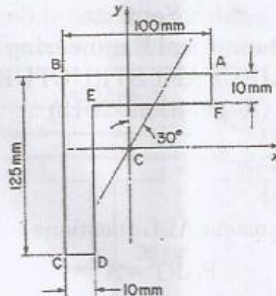

Fig 11-(b)
- b) Figure 11-(b) shows the section of an angle purlin. A bending moment of 3000 Nm is applied to the purlin in a plane at an angle of 30° to the vertical y axis. If the sense of the bending moment is such that its components M_x and M_y both produce tension in the positive xy quadrant, calculate the maximum direct stress in the purlin, stating clearly the point at which it acts.